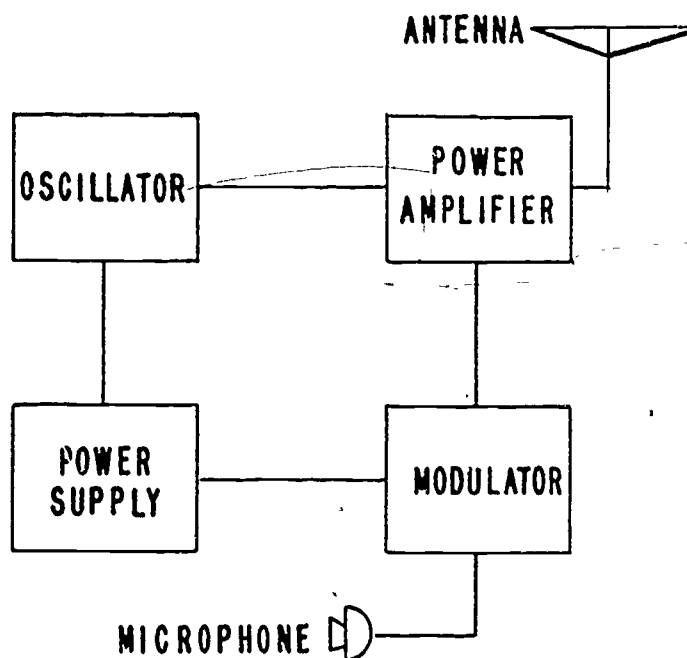

Figure 2-8. A simple radiotelephone transmitter.
- (1) Figure 2-8 illustrates a simple radiotelephone transmitter. A modulator is added to the improved CW transmitter, and a microphone replaces the key. The functions of the power supply, oscillator, power amplifier, and antenna are the same in both transmitters. The modulator uses the voice energy (audio signal) from the microphone to vary the power to the power amplifier at an audio rate.